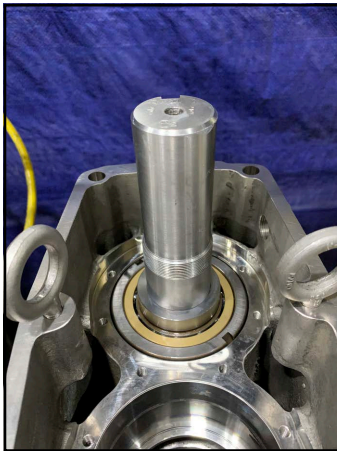

Figure 307 -Place drive shaft in bore
5. Bearing shown fully seated in the gearcase as shown in Figure 307.